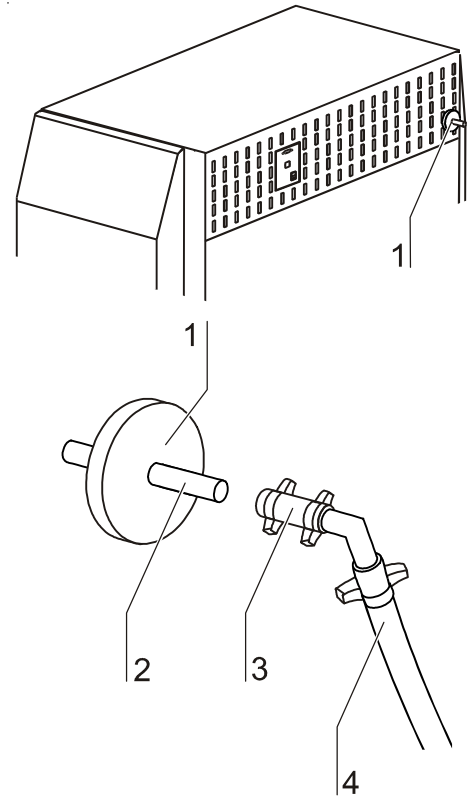

Fig. 33,
4. **Fig. 33:** Disconnect the gas pressure hose [4] from the filter sleeve. Remove the connector [3] from the sterile filter sleeve [2].